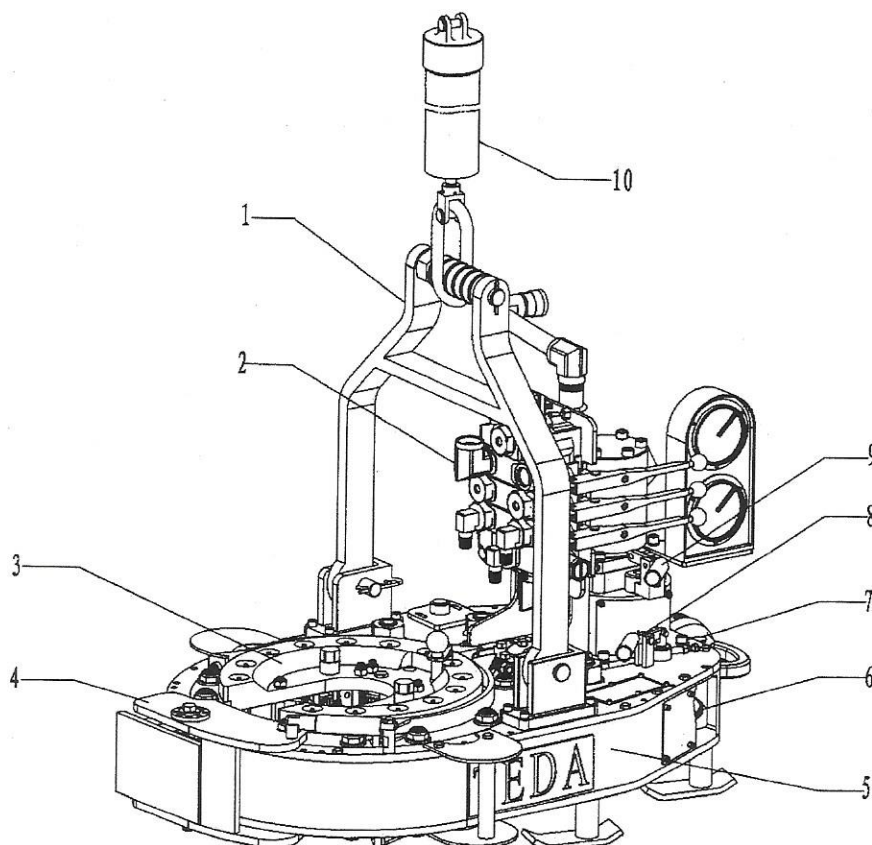

Fig .5
2. Assembly of master tong (Fig 5, Table 2)
2.Assembly of master tong (Fig5, Table 2)